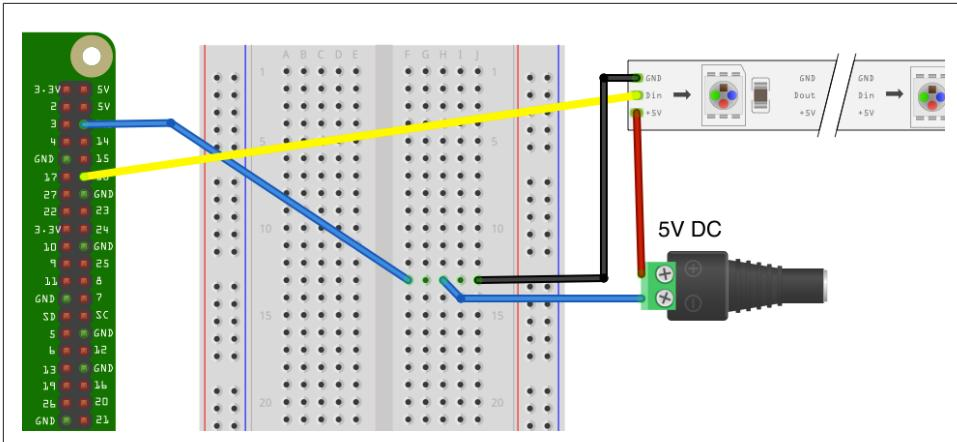

Figure 14-10. Powering an LED strip with an external power supply
Each LED in the strip can use a maximum of about 60mA. It will only do this if all three color channels (red, green, and blue) are at maximum brightness (255). So, if you plan to use a lot of LEDs, then you will need to use a separate 5V power supply sufficient to supply all the LEDs in your strip. Figure 14-10 shows how you would wire up a separate power supply. A female DC jack-to-screw terminal adapter (“Prototyping Equipment” on page 474) makes it easy to connect an external power supply to a breadboard.